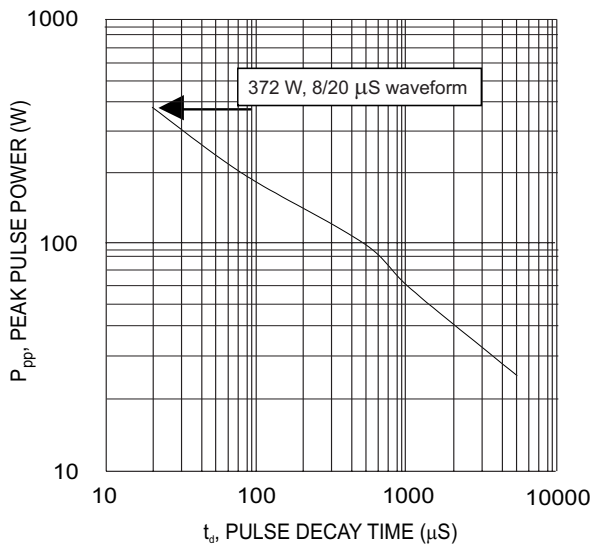

Fig. 2 Unidirectional Non-Repetitive Peak Pulse Power vs. Pulse Duration or Pulse Width
e.g. $P_{pp} = 372$ watts for pulse width (td) of 20 μS , then $372 \text{ watts} = K (20)^{-0.5}$ and $K = 372 / (20)^{-0.5} = 372 * \sqrt{20} = 1663.63$
Now, P_{pp} when $td = 50 \mu S$: $P_{pp} = 1663.63 (50)^{-0.5} = 1663.63 / (\sqrt{50}) = 235.27$ watts (close to measured value see fig. 2)